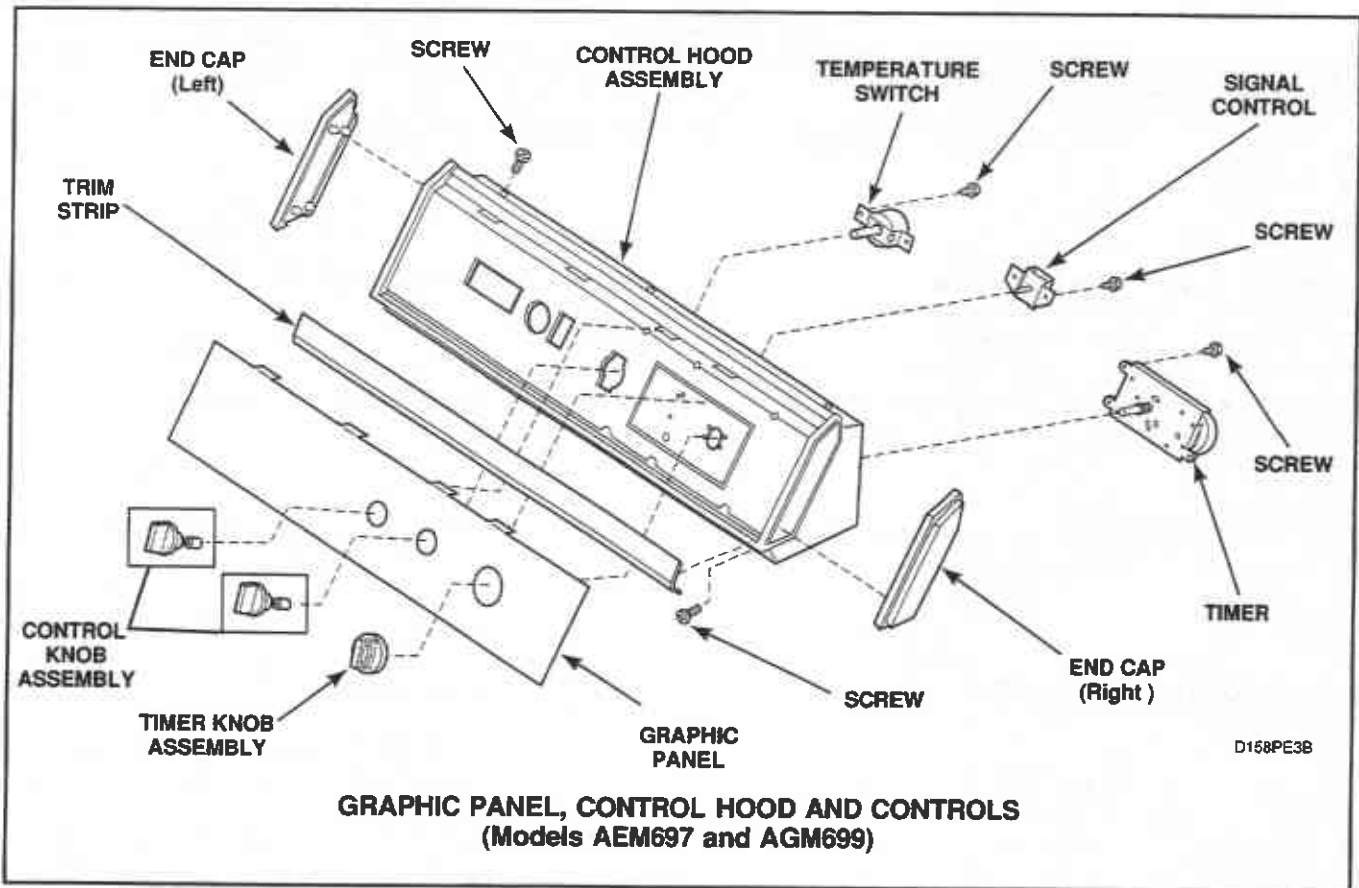

Figure 5
(Figure 5, 6, 7)
Remove end caps by carefully prying caps out of slots in ends of hood, *Figure 5, 6, 7.*
7. TIMER (Refer to *Figure 5, 6, 7* for timer removal)
8. **TEMPERATURE SWITCH** (Refer to *Figure 5 or 6* for switch removal)
9. **SIGNAL CONTROL** (Refer to *Figure 5 or 6* for signal control removal)